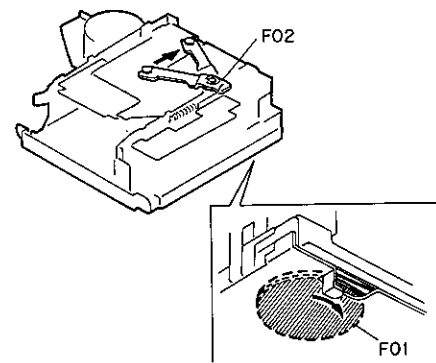

Fig. 2.4.1
Refer to Figs. 2.4.1 and 2.4.2.
- (1) Remove the Mechanism Ass'y referring to item 2.3.
- (2) Turn F01 (Flywheel F Ass'y) in the direction of the arrow to move F02 (Catch Arm Ass'y) rearward. (See Fig. 2.4.1.)